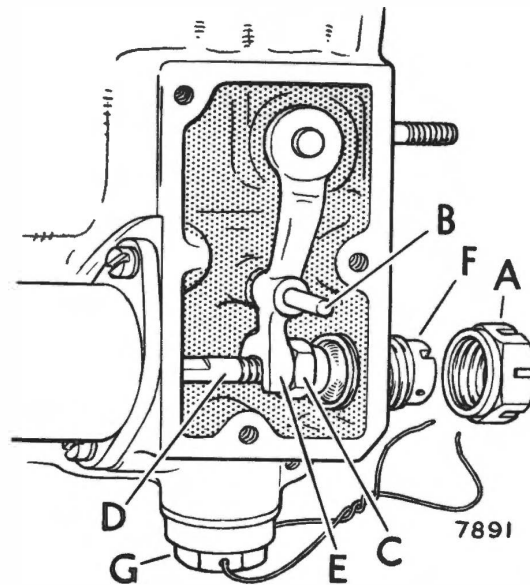

Fig. 26. Stop pad adjustment
From late Series IV models onwards, the control is fitted with an adjustable stop pad. (See Fig. 26). Carry out all checks and adjustments, detailed on Page 16, as necessary.
When these are completed, release the locknut (A). Fig. 26.